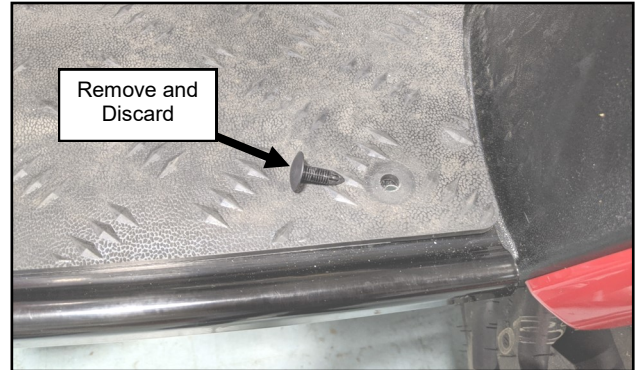

Fig. 1.3 (Remove Left Rear Fir Tree Clip)
- 1.3 Remove and discard the left rear fir tree clip holding down the floor mat. See Figure 1.3.